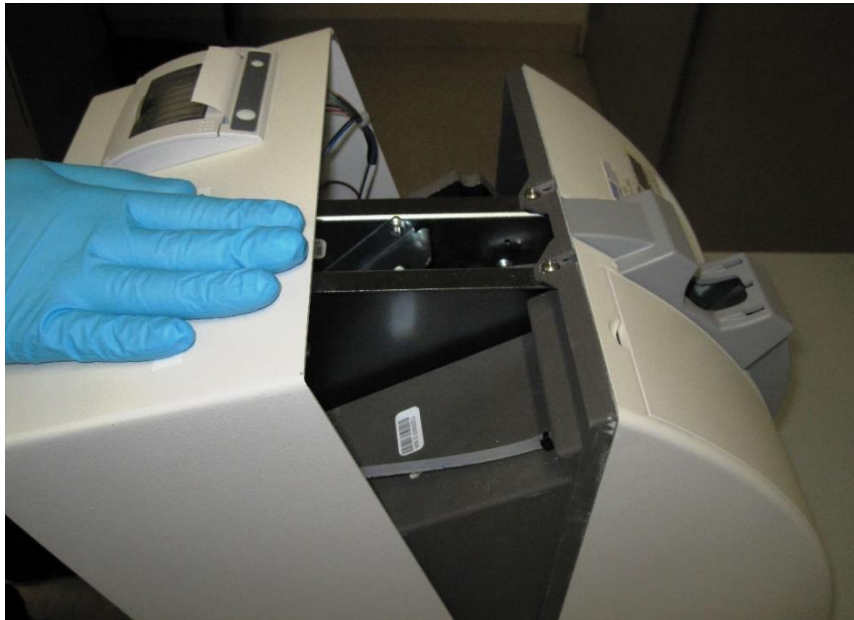

Figure 4
4. Once these screws are removed, slowly split the back portion from the front as depicted below in Figure 4 but do NOT fully remove the enclosure yet.